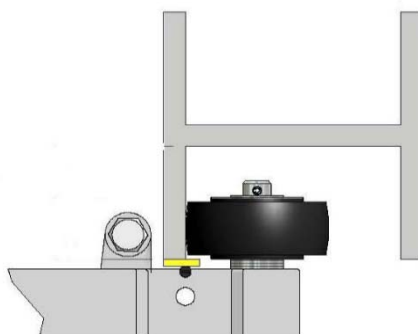

Figure 6
3.1. Place packer (wood, brick etc.), 150mm to 250mm tall at the base of the tracking. Locate Trolleys onto Tracking with the wheel behind the retaining lip, Figure 6. Ensure the Lower Trolleys (G1 and G2) go on the bottom with the eyebolt facing down and that there are an equal number of Intermediate Trolleys (F1), on either side. In total there should be two trolleys for each webbing strap, excluding the upper one (which is fixed to the Top Plates).